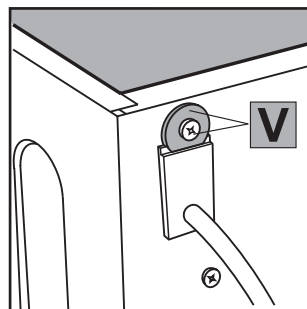

Fig. 15
4. Remove the screw and washer **V** [fig. 15], which act as a stop for the cable passageway.